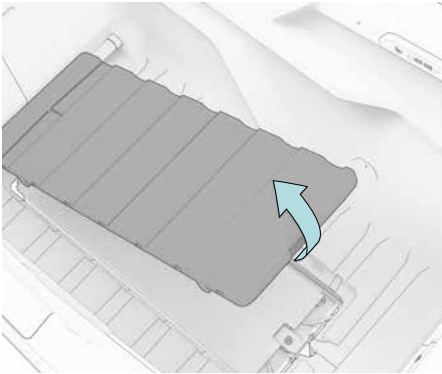

Fig. 11
1. Reach into the recess of the cover plate and remove the plate (Fig. 11).